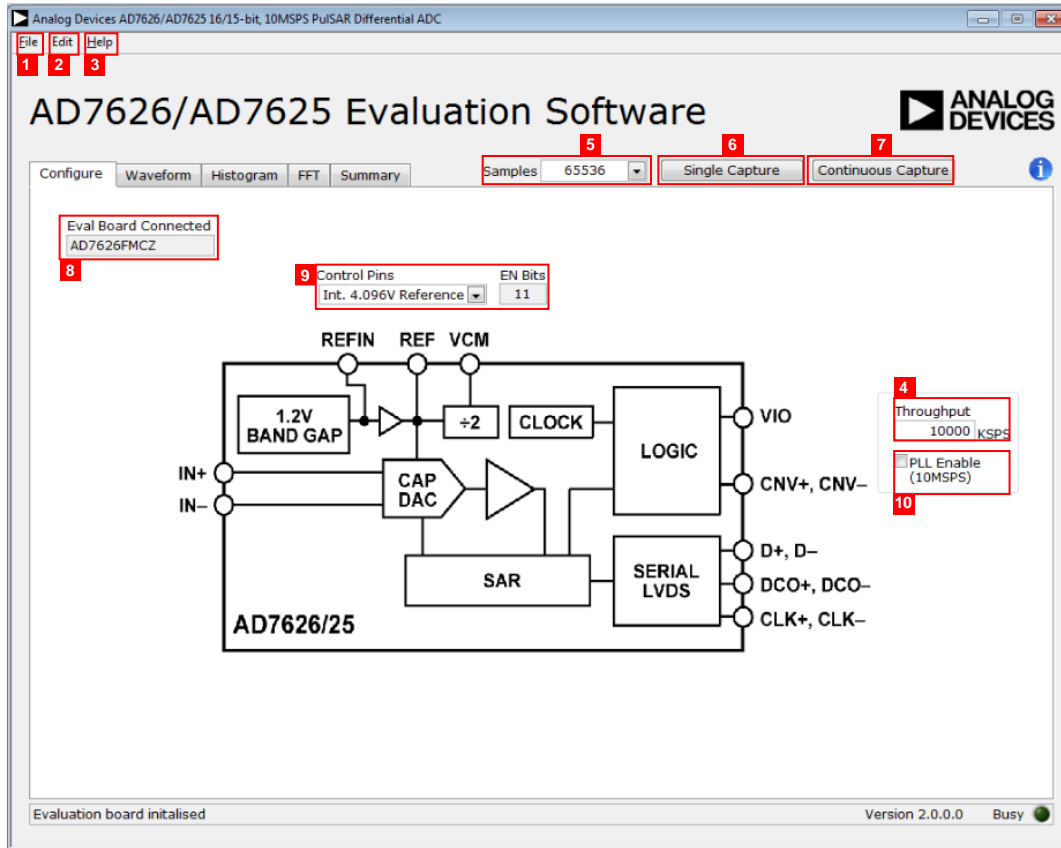

Figure 19. Evaluation Software Window
1. From the **Start** menu, click **Programs > Analog Devices > AD7626\_25 Evaluation Software**. The main window of the software then displays (see Figure 19).
This section describes the full software operation and all the windows that appear. When the software is launched, the main software window opens, and the software searches for hardware connected to the PC. The user evaluation software launches as shown in Figure 19. The labels listed in this section correspond to the numbered labels in Figure 19.
The **File** menu, Label 1 in Figure 19, has the following options:
The **Edit** menu, Label 2 in Figure 19, provides the option to **Initialize to Default Values**, which resets the software to its initial state.
The **Help** menu, Label 3 in Figure 19, offers help from the
The **Throughput** field, Label 4 in Figure 19, controls the throughput. The default throughput (sampling frequency) is 10,000 kSPS for the AD7626, and 6000 kSPS for the AD7625. The user can adjust the sampling frequency; however, there are limitations around the sample frequency related to the SCLK frequency applied. The sample frequency must be at least 500 kSPS. If the user enters a value exceeding the ability of the ADC (the AD7625/AD7626 have a maximum sample frequency of 10M/6M), the software indicates this, and the user must revert to the maximum sample frequency.
From the **Samples** drop-down menu, Label 5 in Figure 19, select the number of samples to analyze when running the software; this number is limited to 1,048,576 samples.
Clicking **Single Capture**, Label 6 in Figure 19, performs a single capture. Clicking **Continuous Capture**, Label 7 in Figure 19, performs a continuous capture from the ADC.
The **Eval Board Connected** indicator, Label 8 in Figure 19, shows that the evaluation board is connected. In Figure 19, the connected evaluation board is the EVAL-AD7626FMCZ.
The various options for using the external reference are controlled by the **Control Pins** drop-down menu, Label 9 in Figure 19. The default value is set to 4.096 V (internal reference). The other options are external reference 4.096 V, external 1.2 V, and power down. It is recommended to use an on-board AD8031 device as an external reference buffer.
The **PLL Enable** check box, Label 10 in Figure 19, is used when the CNV signal is coming from the AD9513. The positions of JP1 and JP2 must also be changed to A connected to center.